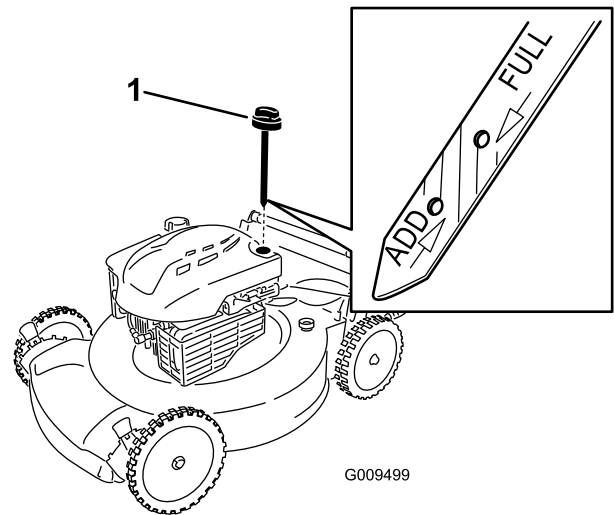

Figure 24
6. Remove the dipstick from the oil-fill tube (Figure 24).